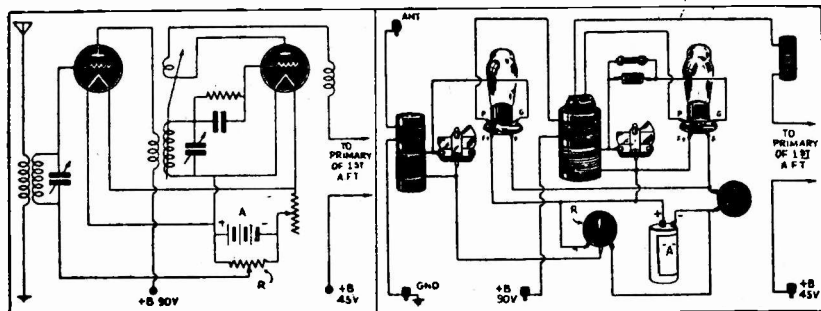
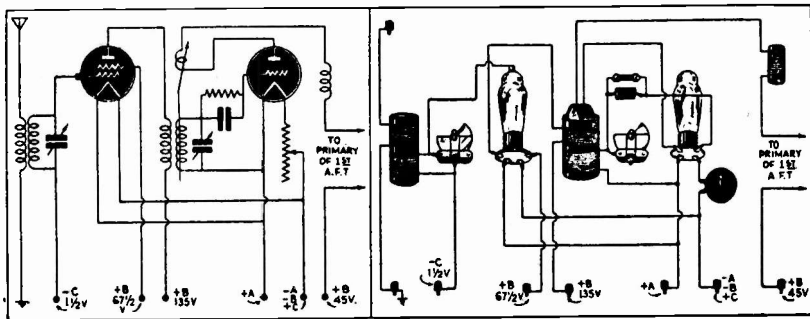

Fig. 22
Fig. 23
The diagram, Figure 22, on this page, shows another type of amplifiers—a radio frequency amplifier—which does add to the set's sensitivity and selectivity.
R.F. (radio frequency) stage's plate coil in Figure 22. Having no grid leak and condenser, the tube does not act as a detector. Certain biasing (not used) could also make it detect.
Figure 23, herewith, is precisely the same circuit as that of Figure 22, except that a screen-grid (four-element) tube has been substituted for the three-element tube of the earlier diagram.